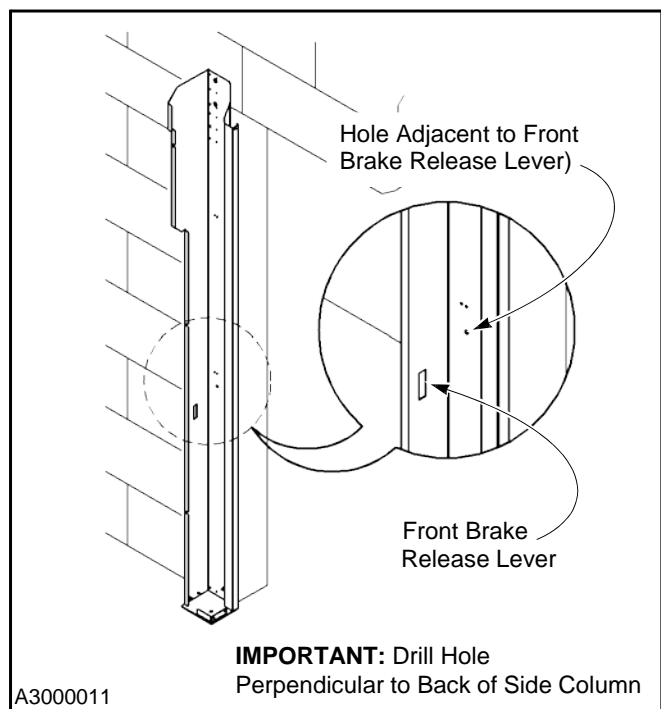

Figure 25
1. Using the hole in the back of the drive motor side column (the hole adjacent to the factory-installed brake release lever), drill a 1/2-in. diameter hole through the wall. (See Figure 25.)